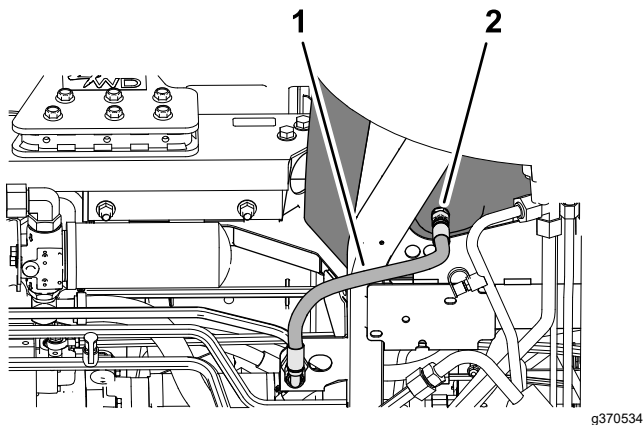

Figure 108
3. Align the drain pan under the hydraulic tank (Figure 108).